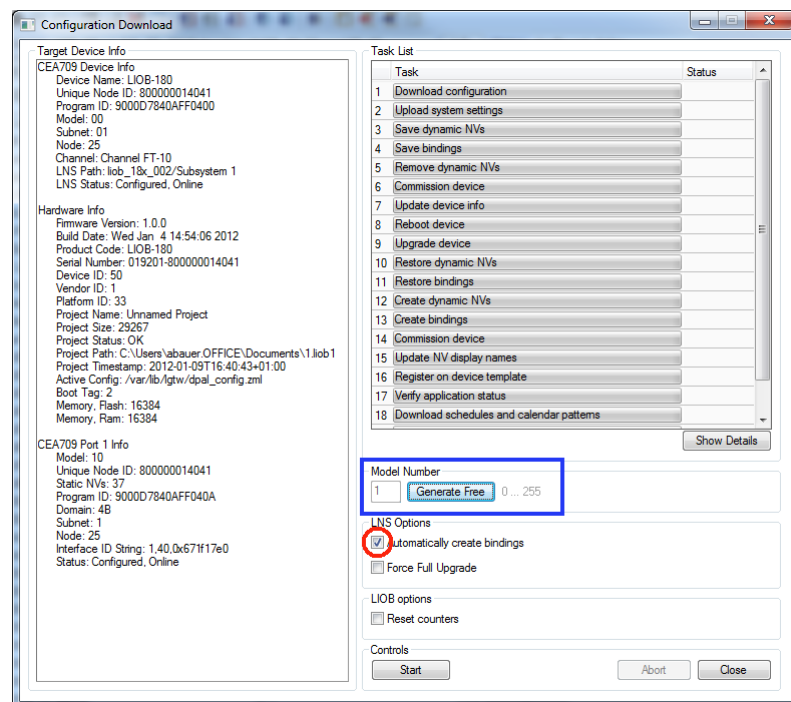

Figure 116: Configuration Download Dialog via LNS
in the tool bar of the main connections window. This will open the configuration download dialog as shown in Figure 116.
2. If no bindings shall be generated, deselect the **Automatically create bindings** checkbox indicated by the red circle in Figure 116.
3. If the static NV interface has been changed, a new model number for the device needs to be selected. This is necessary, as the static network interface of the device changes on the CEA-709 network. The Configurator automatically selects a usable value, which can be overridden in the field **Model Number** marked by the blue rectangle in Figure 116.